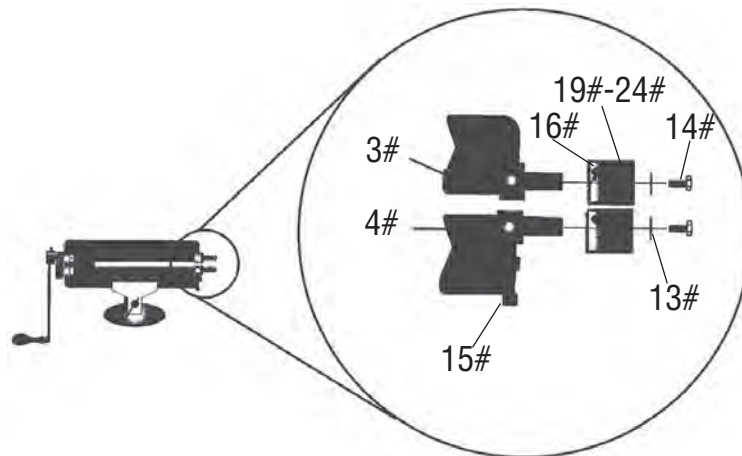

Figure 4
2. Slide both dies onto the Driving Shaft(3#) and Driving Shaft(4#) at the same time(see **Figure 4**). Ensure that the Screws(16#) are positioned over the flat surface on the Driving Shaft(3#) and Driving Shaft(4#).